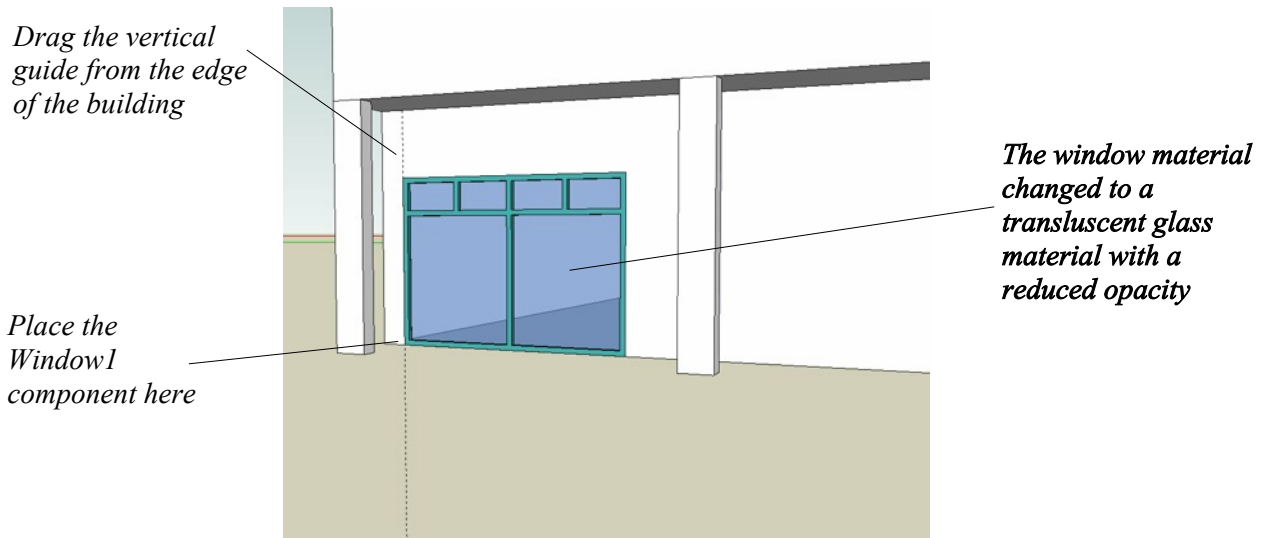

Figure 60. Window1 component placed at the junction of the guide and base of the building
- Using the **Tape Measure** tool measure the length of the building and divide that number by 12. Divide the answer by 2 to obtain the distance that the first window will be placed from the corner of the building as shown in Figure 60.
- Use the **Tape Measure** tool again and place two vertical guide lines the required distance from the corner of both ends of the building as shown in Figure 60.
- Using **WINDOW/Components** insert the Window1 component at the junction of the guide and the bottom of the building as shown in Figure 60.